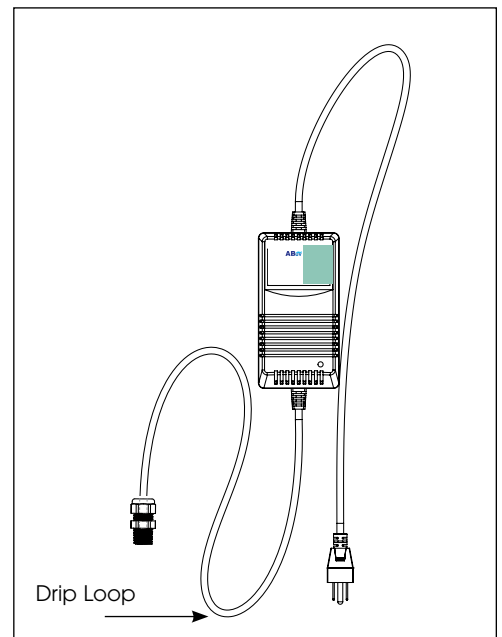

Figure 1D
4. Mount the controller on the wall, near the reactor chamber. Ideally place the controller above the reactor and away from any water connection point, to prevent any water from potentially leaking onto the controller by means of a leak at a connection point or a 'sweating' system. Make sure you allow for a 'drip-loop' (Figure 1D) on the lamp, and power cord (prevents water from potentially entering the controller).